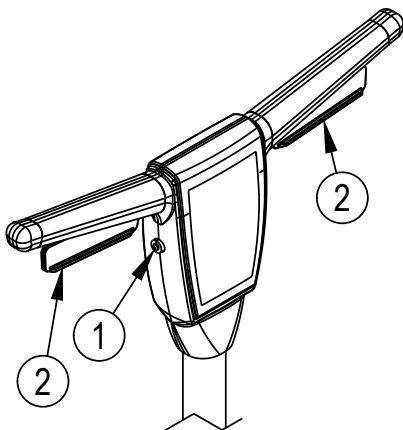

Figure 6
5. Push the interlock button (1), and apply pressure to the levers (2). To stop the machine, release the levers (2) (see Figure 6).
3. Push the interlock button (1), and apply pressure to the levers (2). To stop the machine, release the levers (2) (see Figure 6).